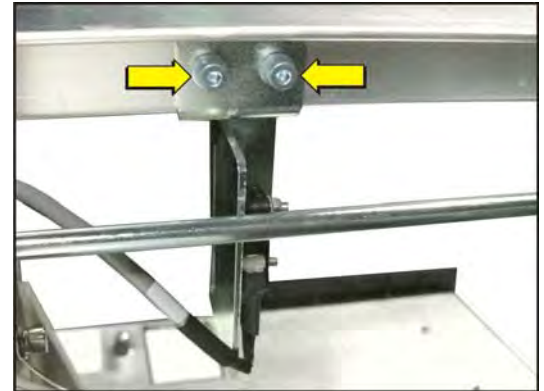

Figure 5-65 Lamp Door Interlock Bracket
9. Using a 3mm hex key, remove the two screws securing the lamp door interlock bracket. (**Figure 5-65**)